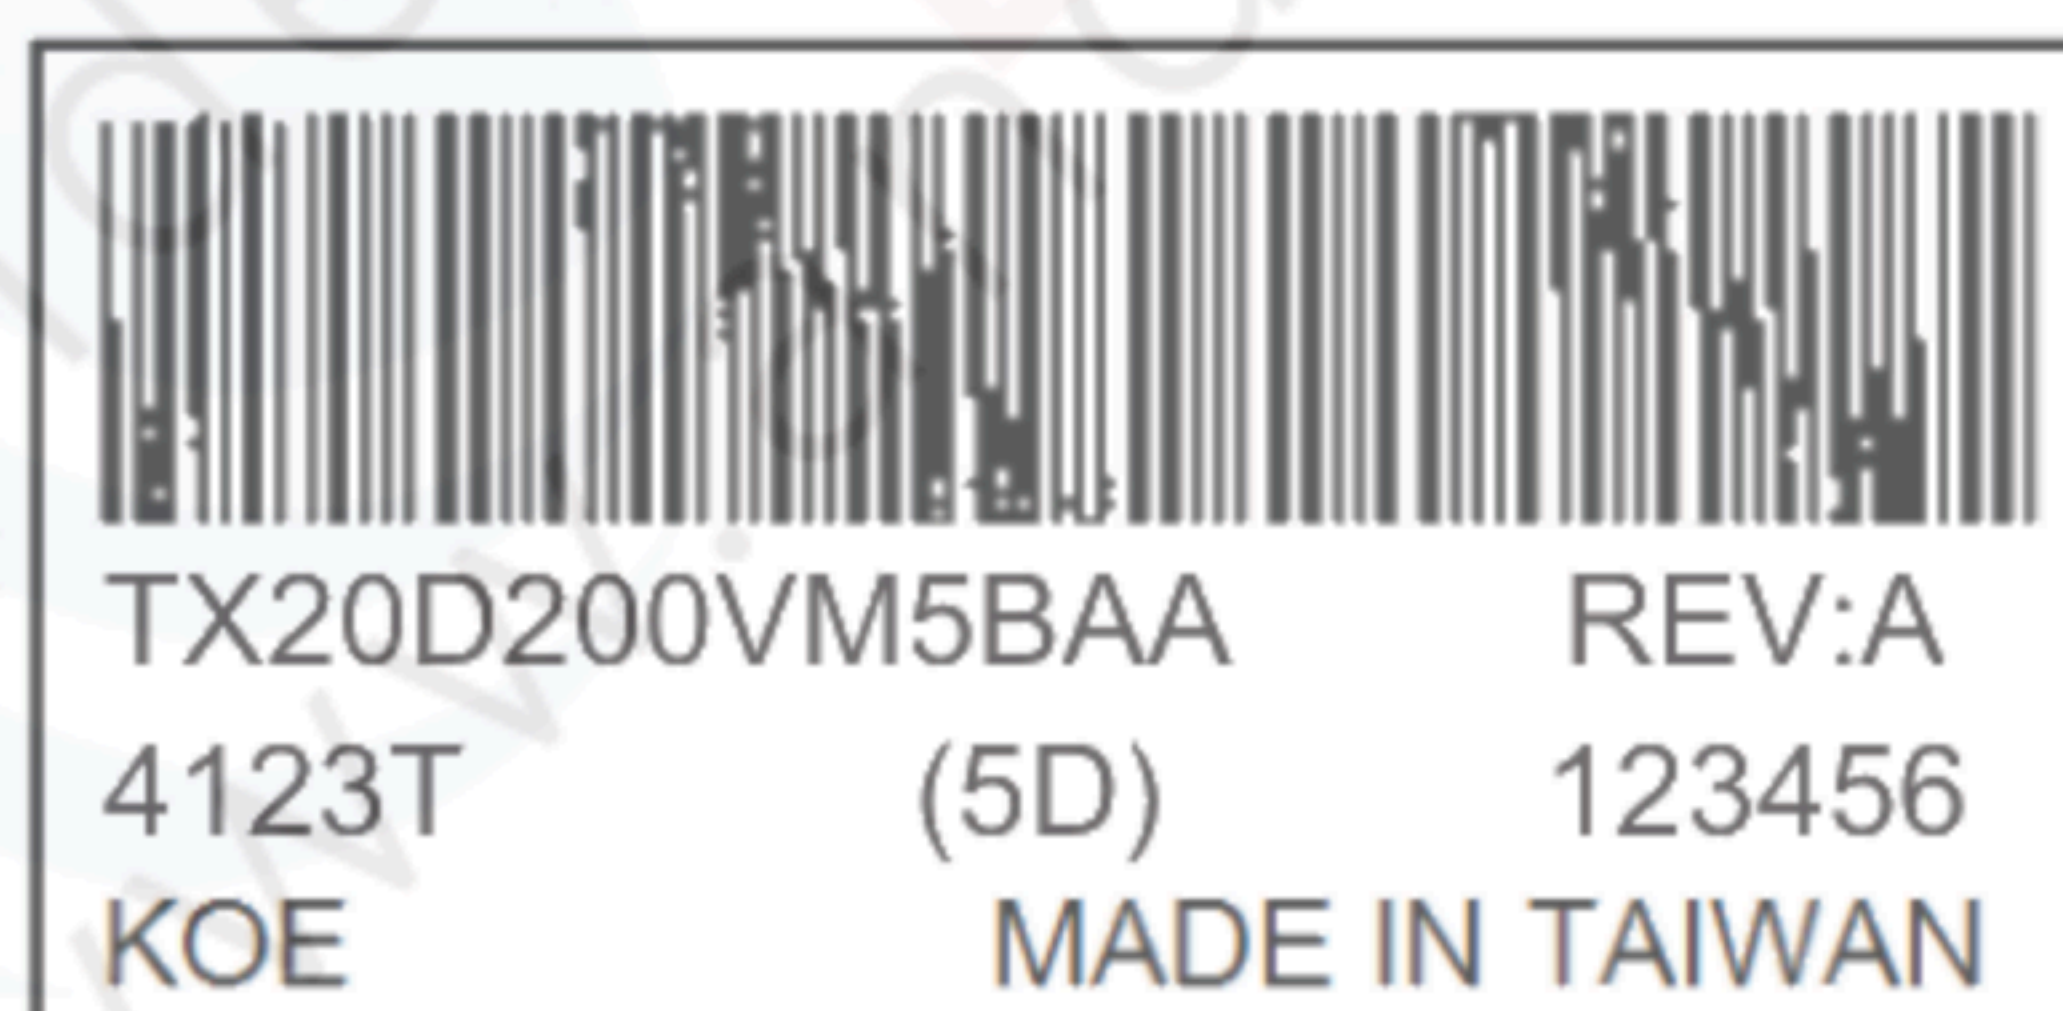

Fig. 13.2
4) The location of the lot mark is on the back of the display shown in Fig. 13.2.